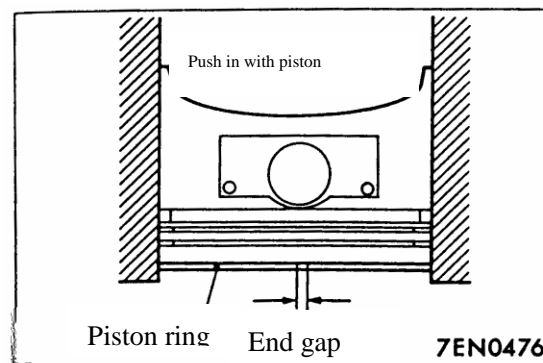

Fig.4-91
- (2) Insert the piston ring into the cylinder bore and push it down with a piston . ensure that the piston's crown is in contact with the ring such that the ring is at 90° to the cylinder wall. Then, measure the end gap with a thickness gauge. If the gap is too large, replace the piston ring, see Fig.4-91.